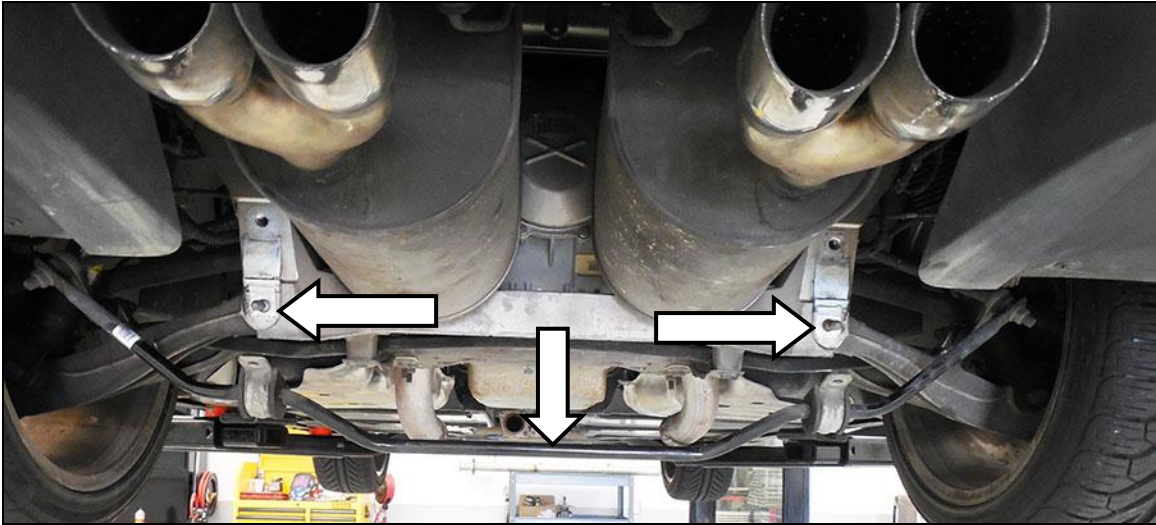

Figure 1
2. Remove the (x2) nuts and (x2) bolts from the rear sway bar center mounting bushings. Do not remove the lower control arm bolt. Allow the sway bar assembly to swing down and away from the mufflers. See **Figure 1**.